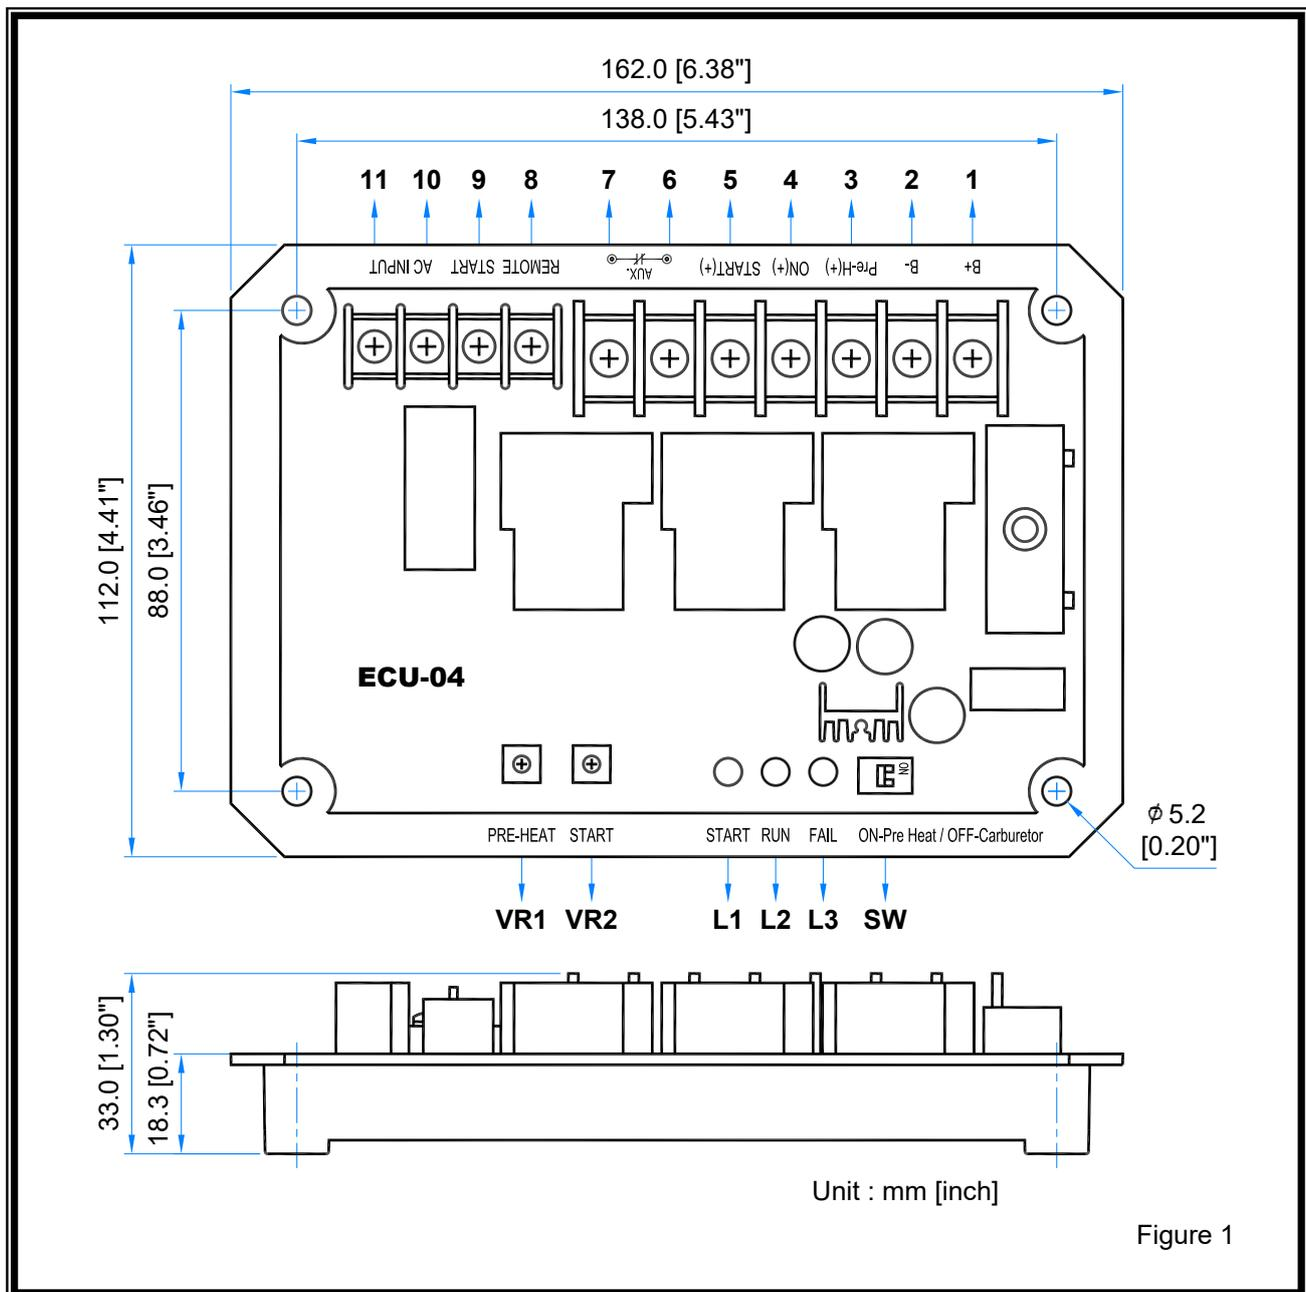

Figure 1
- VR1 : The engine pre-heat time adjustment knob with 1 – 20 seconds range. 5 seconds are recommended. ( Please refer to Figure 1 below )
- VR2 : The start-up time adjustment knob with 1 – 20 seconds range. Please refer to the generator user's guide. 4 – 8 seconds are recommended. ( Please refer to Figure 1 below )
refer to Figure 1 below )
- L2 : Engine running normal indicator LED. ( Please refer to Figure 1 below )
- L3 : Start fail indicator LED. ( Please refer to Figure 1 below )